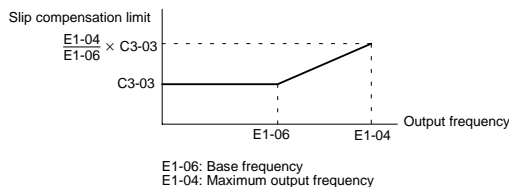

Fig 7.12 Slip Compensation Limit
- The limit is as shown in Figure 7.12 in the constant torque and constant output areas.